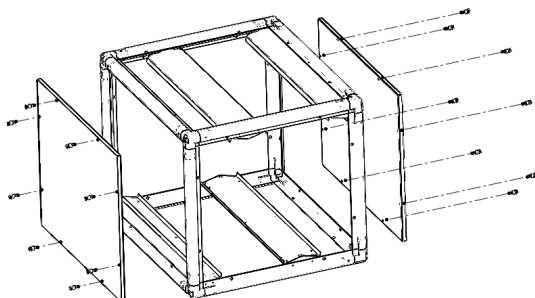

**Fig.6** Install both side access panels.
3. Install both side access panels using the 1/4-20 shoulder bolts. Each panel will require qty 8 shoulder bolts. **See Fig. 6**